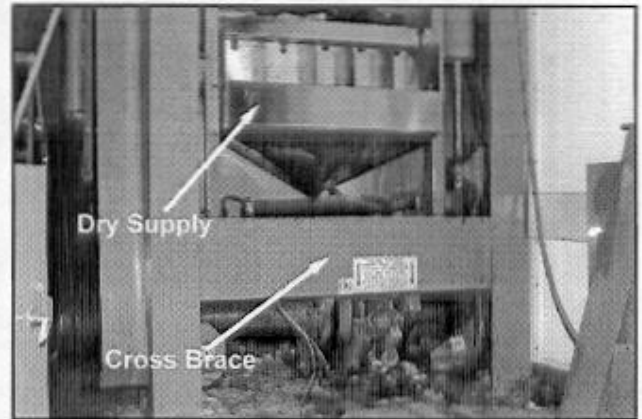

Figure 2
- b. Remove the lower cross brace on the right side of the machine. It may be necessary to bend the dry supply in to remove the cross brace (see figure 2).